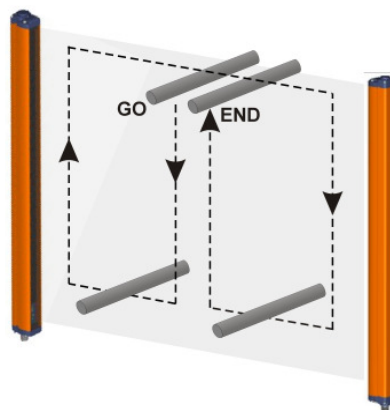

Fig. 14
- ESPE remains blocked (➡|) intercepting the beams along the protected area using the specific test piece, following the Fig.14 scheme.